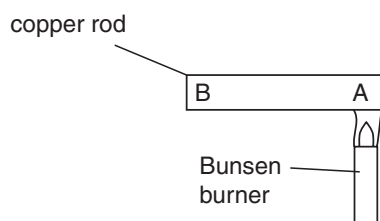

Fig. 5.1
- 2 (a) Fig. 5.1 shows a copper rod AB being heated at one end.